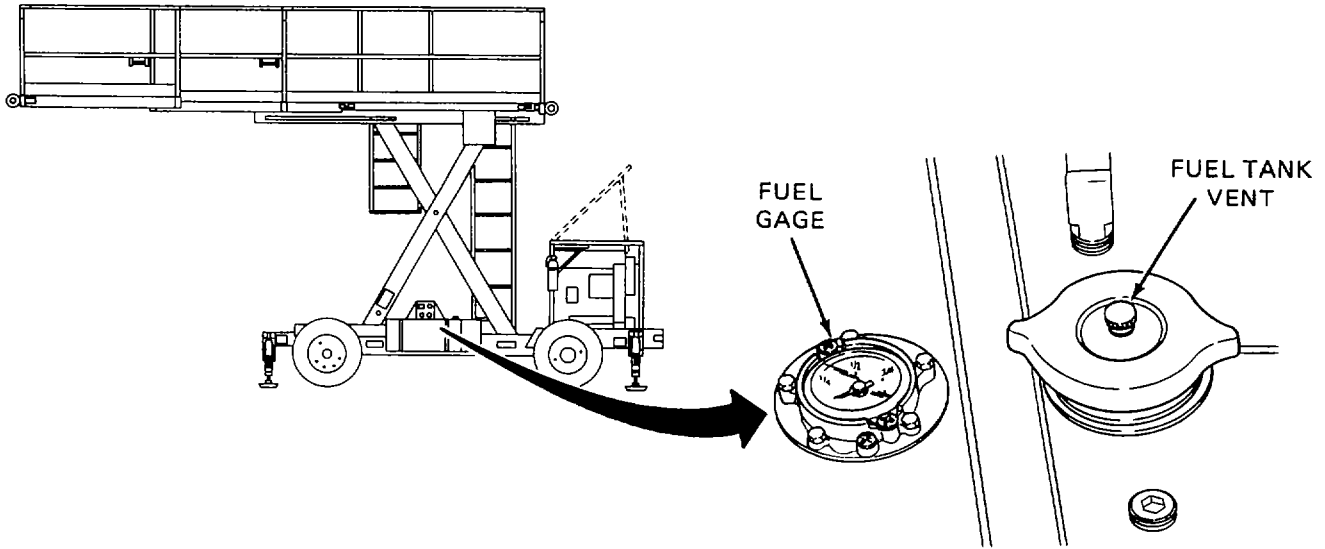

Figure 2-5. Fuel Tank.
(4) FUEL TANK VENT-Use this valve when operating the SPEMS. Turn counterclockwise to open, clockwise to close. See Figure 2-5.
c. Indicators. Operator indicators are listed below. See Figures 2-5 and 2-6.
(1) FUEL GAGE-Shows how much fuel is left in the fuel tank. Fill tank when needle is at or below 1/4.
(2) HYDRAULIC OIL FILTER RESTRICTION PRESSURE GAGE-Indicates when filter needs to be changed. Change filter when needle points in red area. Both hydraulic suction and return filters each have a gage.